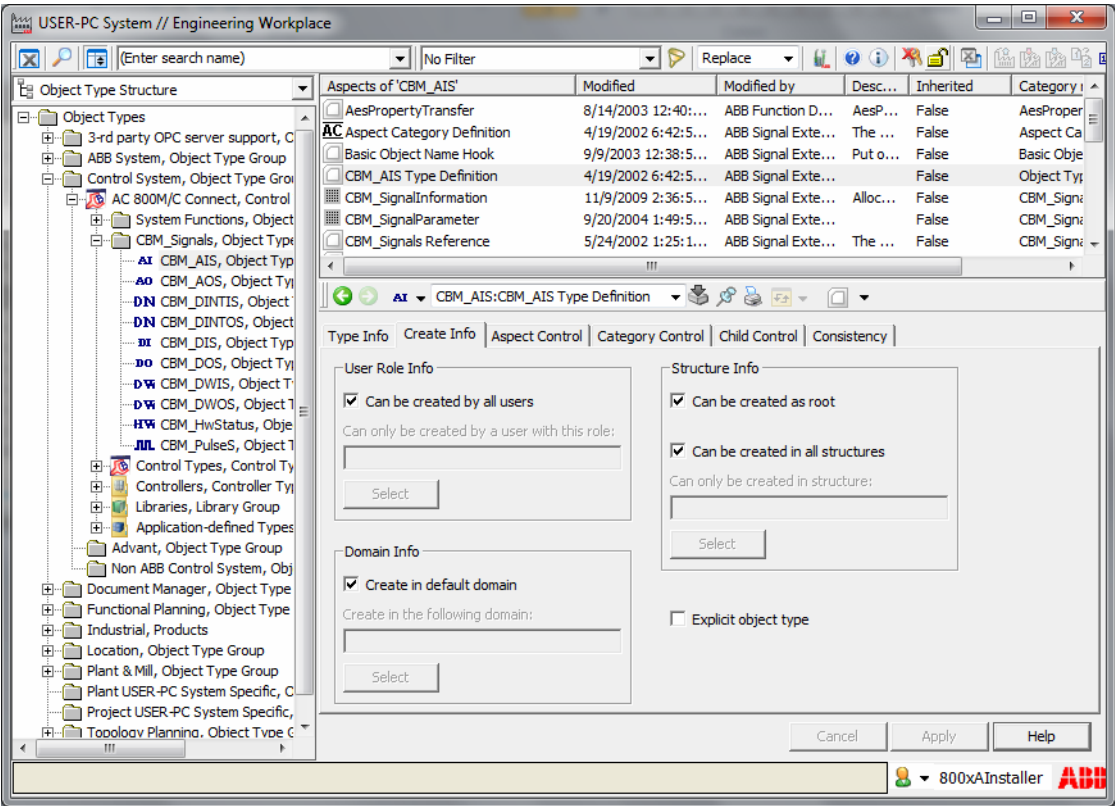

Figure 28. Create/Structure Info for Instantiation Kind Aspect Objects
- To define instantiation kind aspect object, all **Structure Info** options must be selected, and **Explicit Object Type** must be cleared. See Figure 28.